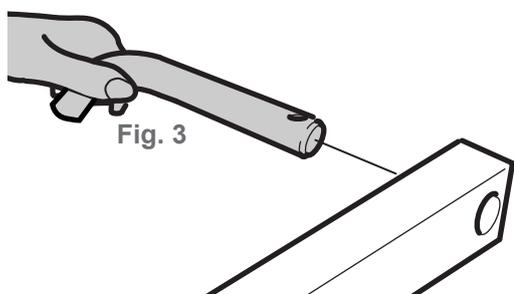

Fig. 3
- Remove the relative pin "C" (fig.3).